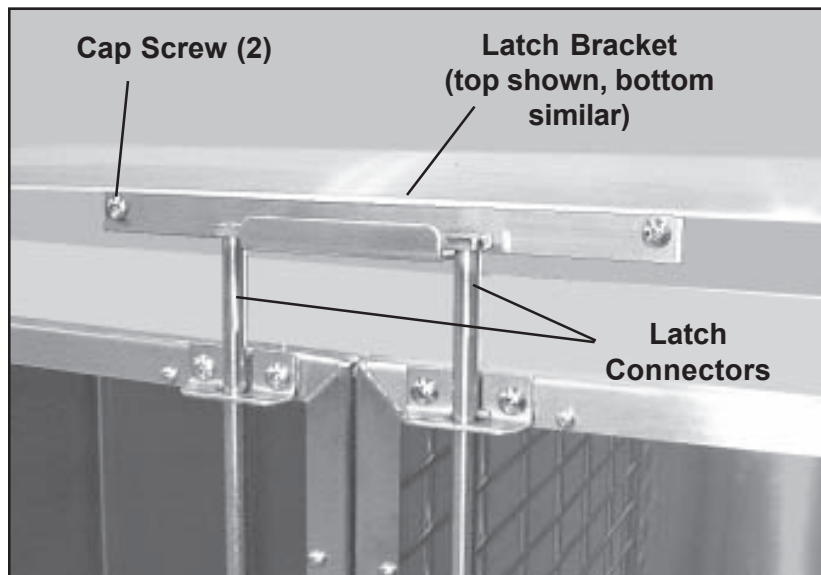

Figure 88. Latch Bracket
2. With a Phillips screwdriver, remove the two cap screws that secure the latch bracket (Figure 88) and remove the bracket from the unit.